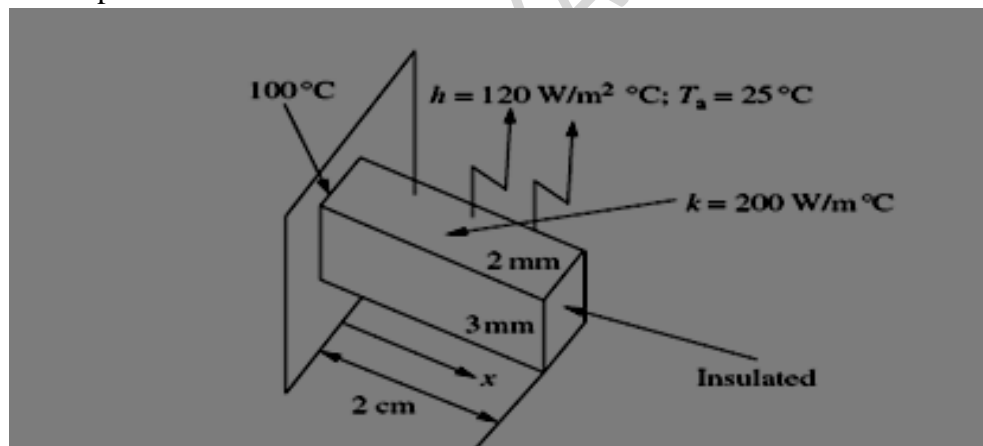

Fig. 7b
- b) Determine the temperature distribution in the rectangular fin shown in Fig. 7b. Use two 2 noded 1d heat transfer elements. Also, interpolate the results and obtain temperatures at 0.005m 14